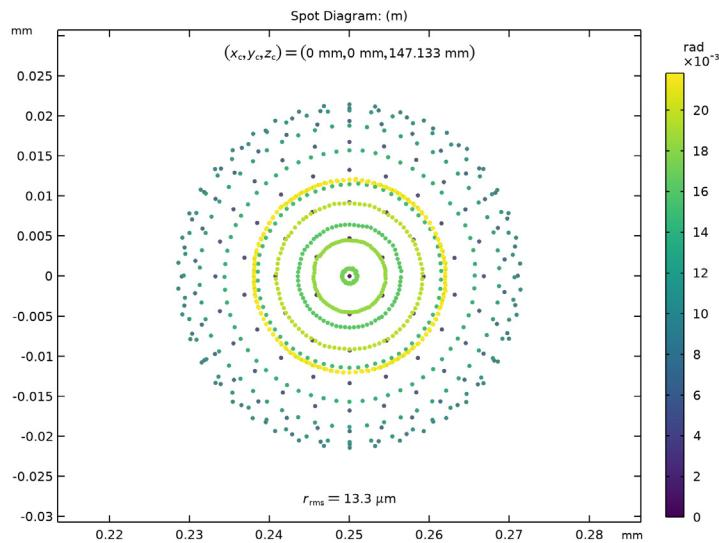

Figure 3: A spot diagram showing the global coordinates of the finite conjugate focal plane.
The Spot Diagram feature can be used to automatically find the location of the best RMS focus (see Figure 3). The on-axis aberrations can also be seen in Figure 4. For more details see the Modeling Instructions at the end of this document.
- 4 In the **Spot Diagram** toolbar, click  **Plot**. The global coordinates this location can be now be seen in this plot. Compare the result to Figure 3.